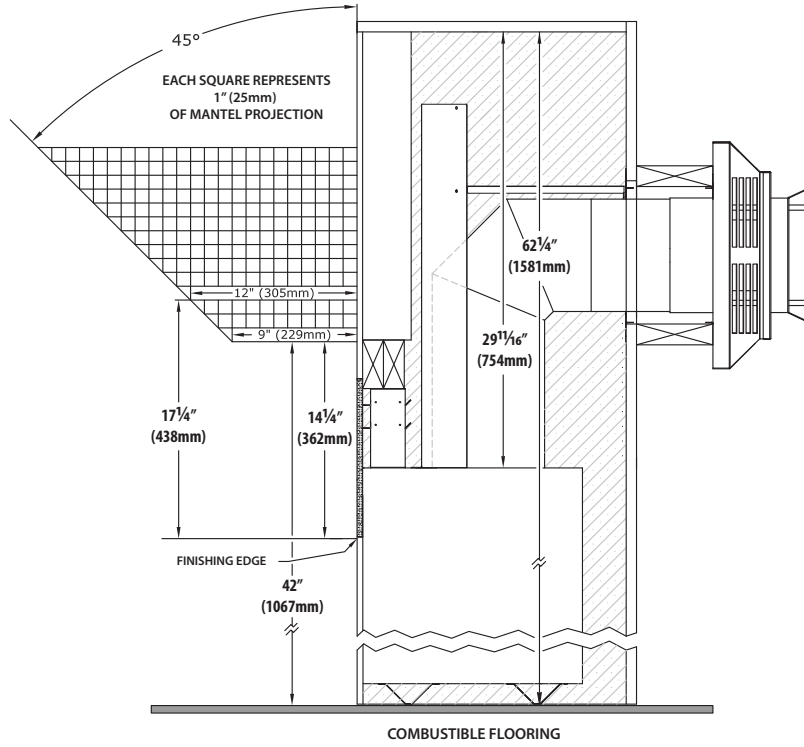

Figure 4.1, Mantel Requirements
- Combustible Mantel Projections - As referenced in Figure 4.1 (page 19), the 9" (229mm) mantel can start at 14-1/4" (362mm) above the finishing edge. Mantel projections can increase 1" (25mm) of depth for every 1" (25mm) of height starting at the 9" (229mm) mantel.